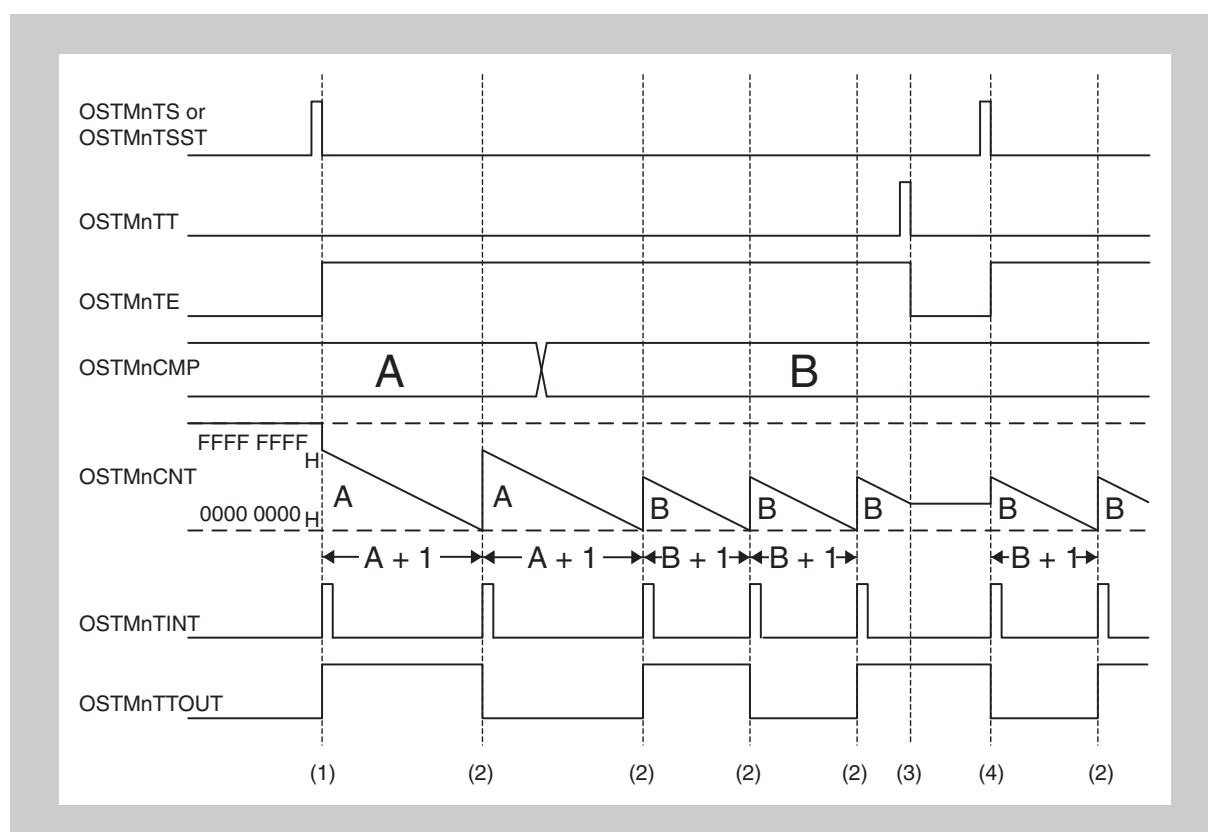

Figure 18-6 Timing diagram of OSTM in interval timer mode
1. The counter is started as shown and explained in *Figure 18-6 “Timing diagram of OSTM in interval timer mode” on page 985*.